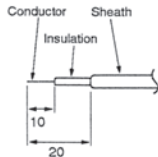
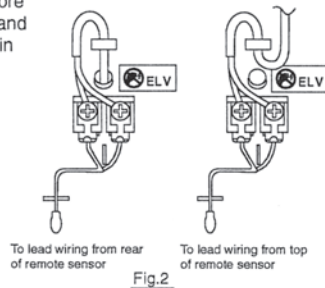

Fig.1
Fig.2
- ③ The following parts must be procured at the site.
(2) Connect the wires.
- Connect the 2-core cable to the terminal block in the lower case. Peel the sheath of the 2-core cable as shown in Fig.1, and correctly wire it as shown in Fig.2.